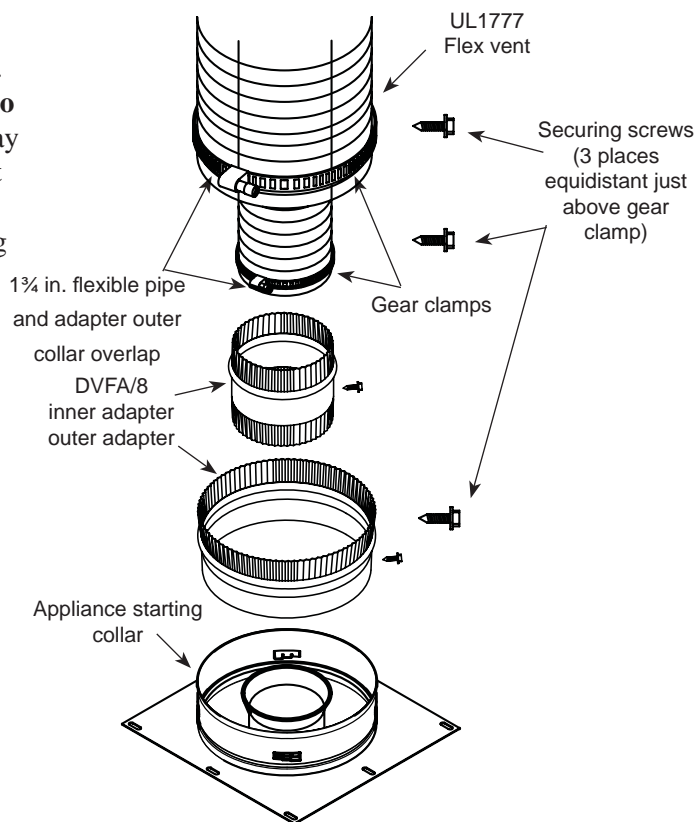

Figure 1 —
2. The flex adapter starter kit (DVFA/8) is used to attach flex venting to the appliance starting collar. It includes 4" inner and 7" outer adapter rings (refer to *Figure 1*).
A. Installing the inner flex adaptor and pipe (see *Figure 1*).
B. Installing the outer flex pipe (refer to *Figure 1*).